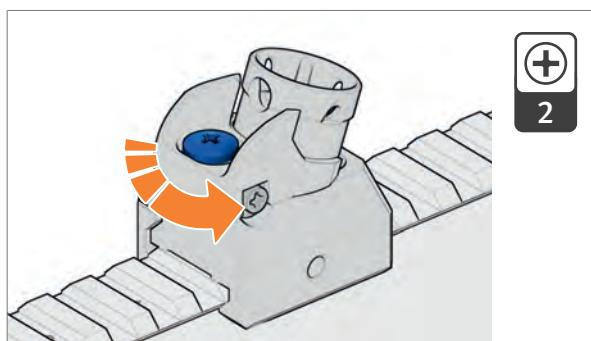

Fig. 81: Loosen the locking screw
1. Loosen the locking screw with a screwdriver anti-clockwise (Fig. 81).